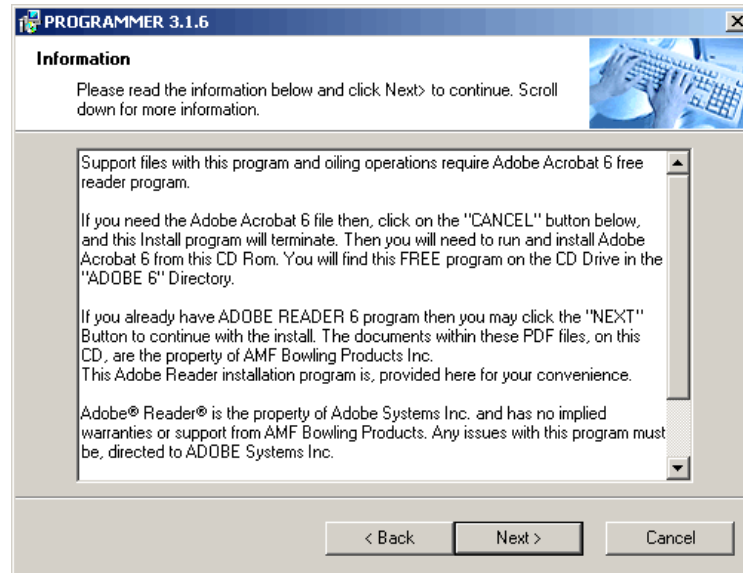

Figure 1-4
6. The next screen displays the information for insuring that Adobe Acrobat Reader is installed on your computer. If you have version 4.0 or lower currently installed, please install the free Reader available on the cd. **Figure 1-4** shows the information about Adobe Acrobat Reader. Click on the <Next> button.